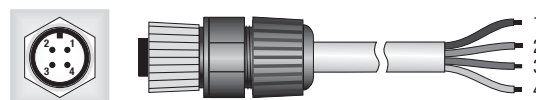

Figure 4.1
- The cable, optional, finished on one side with M12 male connector, 4-pin, is UV resistant, has 3 wires plus the braid (screen); the correspondence between the colors of the cable and connector poles is the following (figure 4.1):